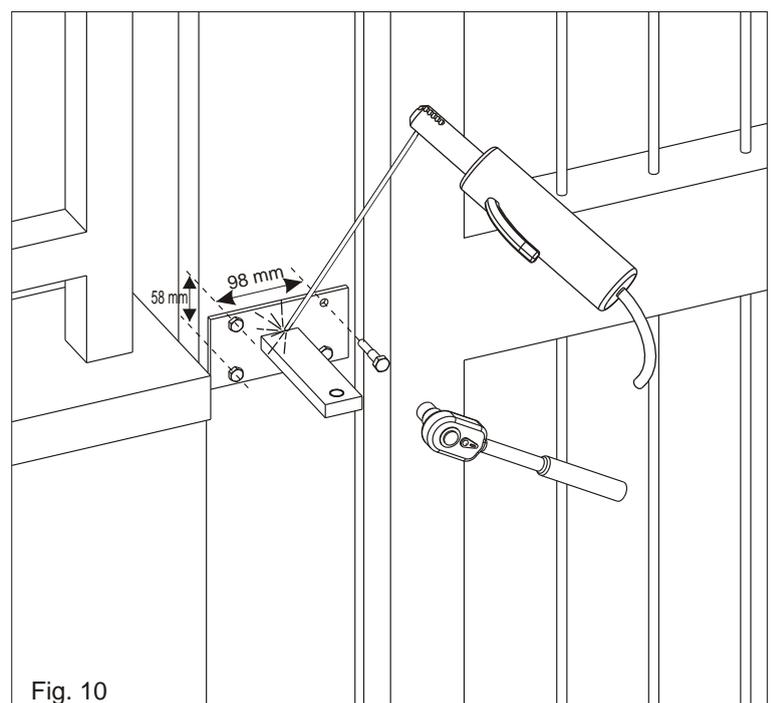
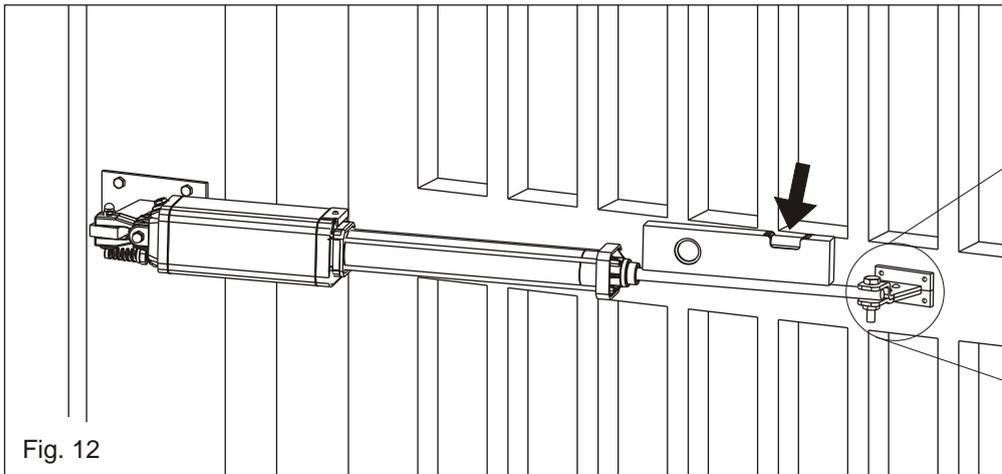

Fig. 10
Fig. 12
According to the type of opening that you have chosen (inside or outside) and to the chosen leaf rotation (see pag. 18), the rear bracket must first be cut respecting the quote "a" on pag. 18 and then welded as in fig. 10.
The support must be positioned so that the operator is perfectly levelled (Fig. 10, Fig. 12)
4. Set the operator perfectly levelled and mark the position of the front bracket (Fig.12)